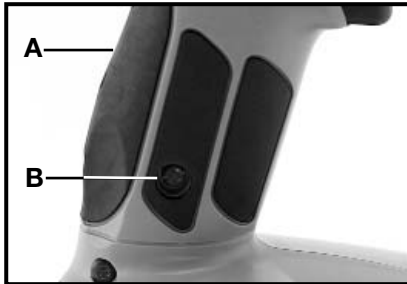

Fig. 8
Three different grip adjustments (small, medium, and large) are provided with the drill/driver to accommodate various hand sizes, and to provide maximum user comfort and control. The drill is shipped with a medium grip (A) Fig. 8 installed.
To change grips, remove the phillips head screw (B) Fig. 8 from right side of the handle by turning it counterclockwise. Lift the grip insert (A) from the back of the handle. Install a new grip by first inserting the tab (A) Fig. 8 at the top of the grip into the corresponding slot in the drill/driver handle. Hold the grip against the handle and insert and tighten the phillips head screw (B) Fig. 8 until snug. Do not over tighten.